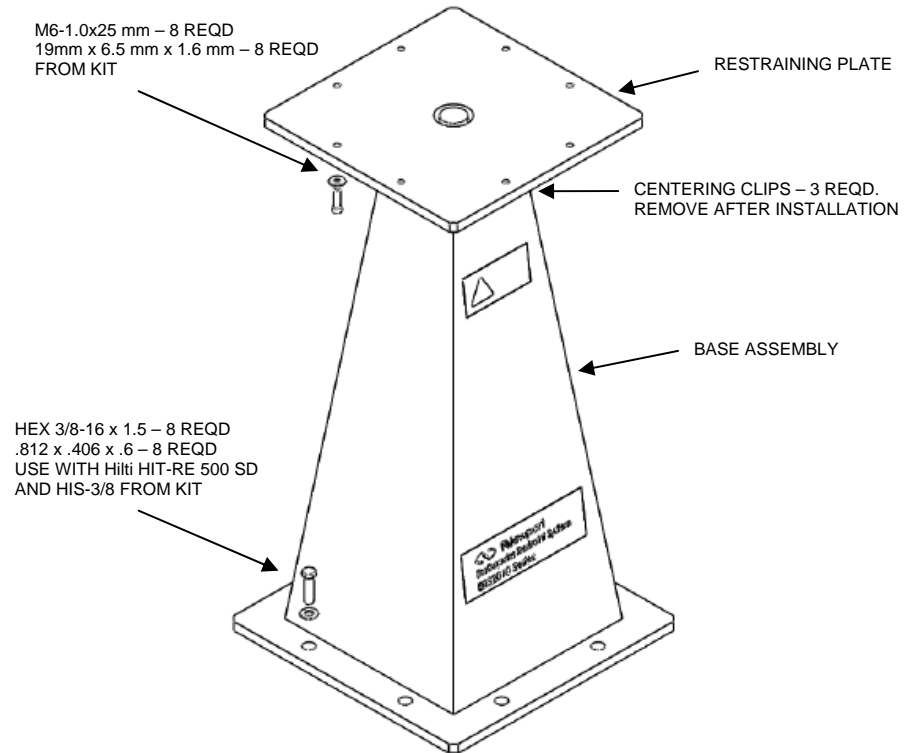

Figure 1: ERS2010 Assembly
The Newport Model ERS2010 Earthquake Restraint system is designed to restrict the motion of Newport Optical Tables in the event of an earthquake. The Restraint is illustrated in Figure 1. Each ERS2010 is rated for seismic forces generated by a maximum of 2000 pounds (908 Kg.) of combined table and payload weight per restraint. Please refer to Table 1 and Figure 2 for detailed specifications of maximum loads. However, in order to prevent possible tipping of a table during or after an earthquake, three or more ERS2010 Restraints - located as far apart as possible at the perimeter of the table system - must be used even though the load per ERS2010 is less than the specified maximum. Installation schematics are shown in Figure 2 (see Section 3).
The ERS2010 Earthquake Restraints are shipped assembled with the Restraining Plate bolted into the Base Assembly. Verify that the three Centering Clips are installed. See Figure 1 for the assembly drawing.
1. Position the Earthquake Restraints with Centering Clips installed under the table bottom. See Figure 1 for installation schematics. Ensure that the Earthquake restraint does not rock on the floor. If necessary use grout or shims to ensure that the Earthquake Restraint does not rock. **Caution:** Newport tuned table dampers are located within an area approximately 12 inches (305 mm) square at each corner of the table. Do not drill into the table in these areas.
- 6) Central position of the CG is assumed. See Figures 1 and 2 for additional information.